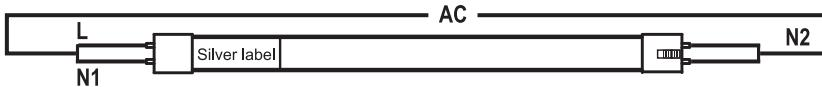

Figure 1
- **Single-ended:** Connect the L/N wires to the pins of the end cap close to the silver label. NOTE: Power is only applied to the endcap close to the silver label. Do not apply power to the other endcap; the lamp will not function. Only use a non-shunted lampholder. See Figure 1.
NOTE: Power is only applied to the endcap close to the silver label. Do not apply power to the other endcap; the lamp will not function. Use only a non-shunted lampholder. See Figure 1.